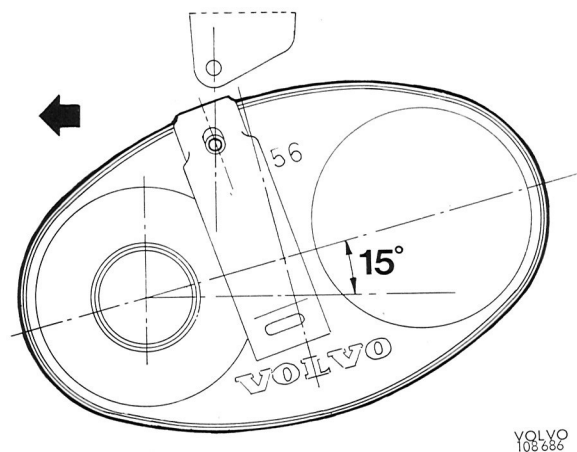

Fig. 2-203. Position of the oblong rear muffler
**Oblong rear muffler:** The muffler brackets should be aligned immediately under the body brackets. The muffler should deviate forwards (front end lower than rear end) approx. 15° from vertical, see Fig. 2-203.